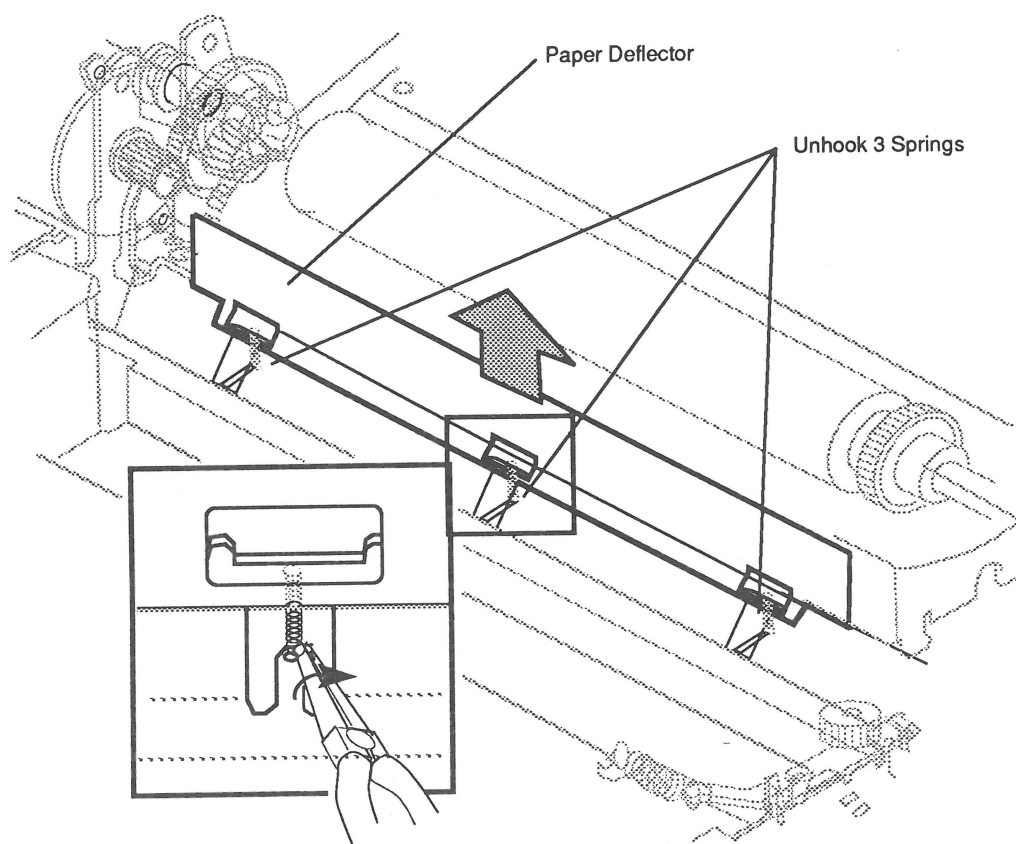

Figure 2-26 Paper Deflector
2. Unhook the three springs (**Figure 2-26**) that hold the paper deflector to the frame.
2. Hold the deflector in position (**Figure 2-26**) and attach the springs to the hooks on the metal frame.